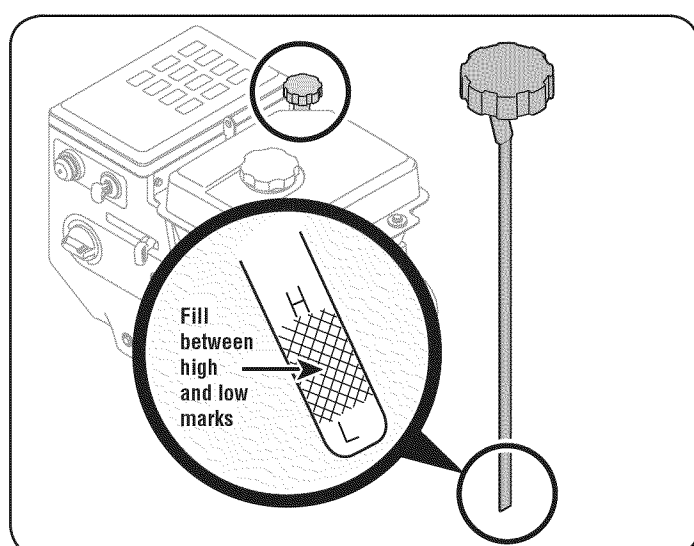

Figure 11
- Keep oil level between “H” and “L” marks on dipstick. See Fig. 11.
1. Remove the oil filler cap/dipstick and wipe the dipstick clean. See Fig. 11.
3. Remove the oil filler cap/dipstick. If the level is low, slowly add oil until oil level registers between high (H) and low (L), Fig. 11.